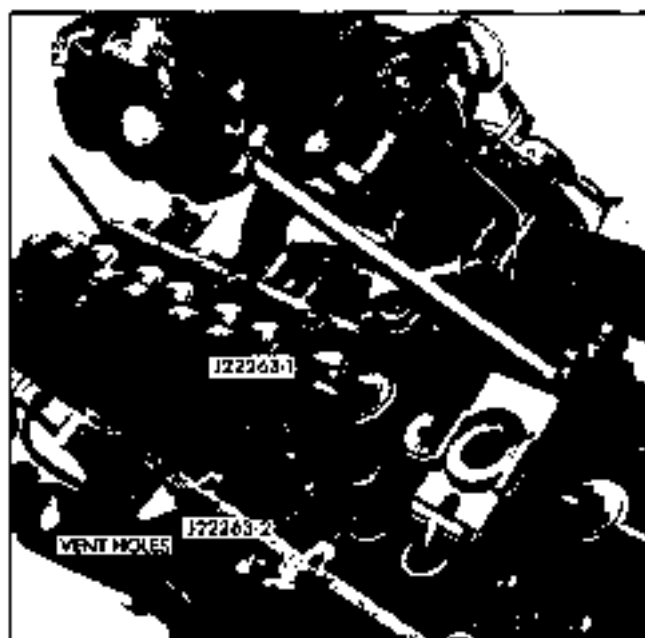

Fig. 6-24 Valve Spring Removal
- b. Fill the vent hole adjacent to the lifter with engine oil (see Fig. 6-24).
6. Hold J 22263-2 in place and install fork end of compressor J 22263-1 on J 22263-2 (Fig. 6-24).